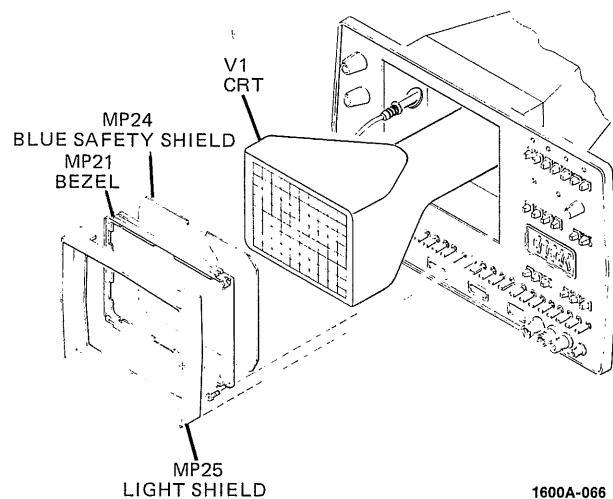

Figure 8-4. CRT Removal
**8-12. CRT Removal.** (See figure 8-4.)